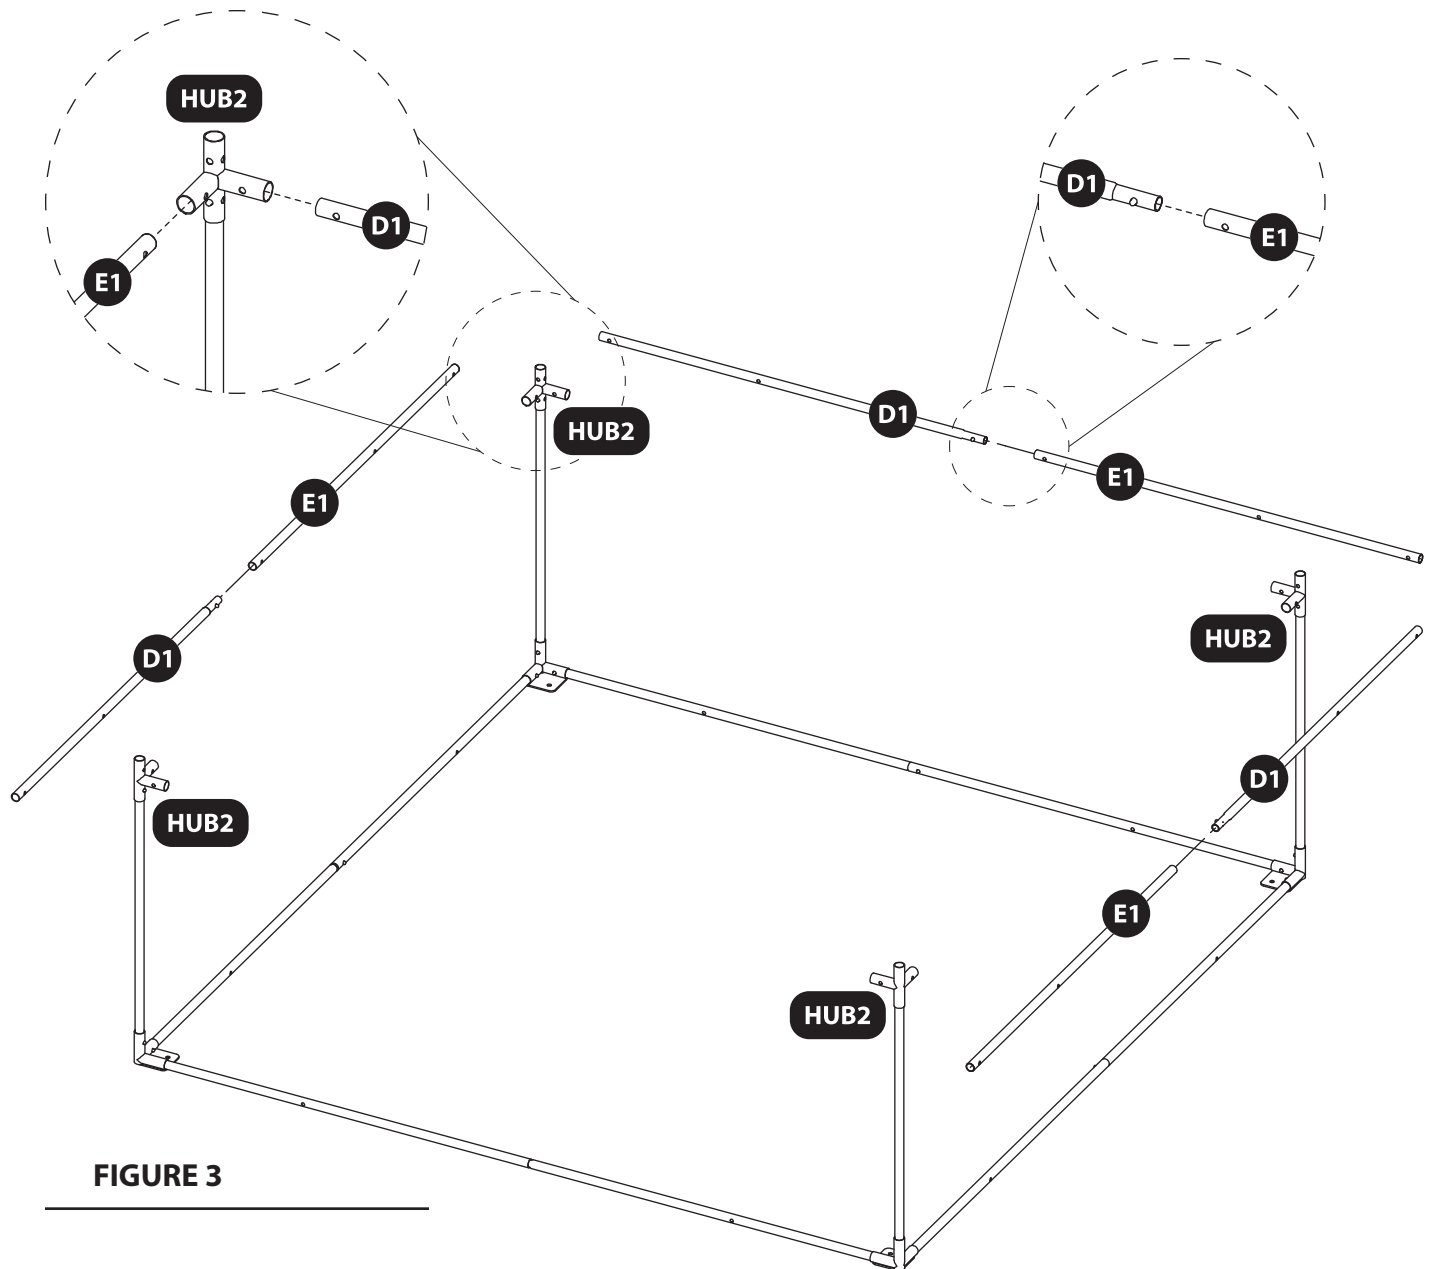

FIGURE 3
7. Slide each of the three D1 poles into an E1 pole so that the snap button secures both pieces together. **SEE FIGURE 3.**
8. Slide the three assembled D1 and E1 poles into the HUB2 corners. These do not attach with snap buttons and will be secured together with hardware in a later step. **SEE FIGURE 3.**